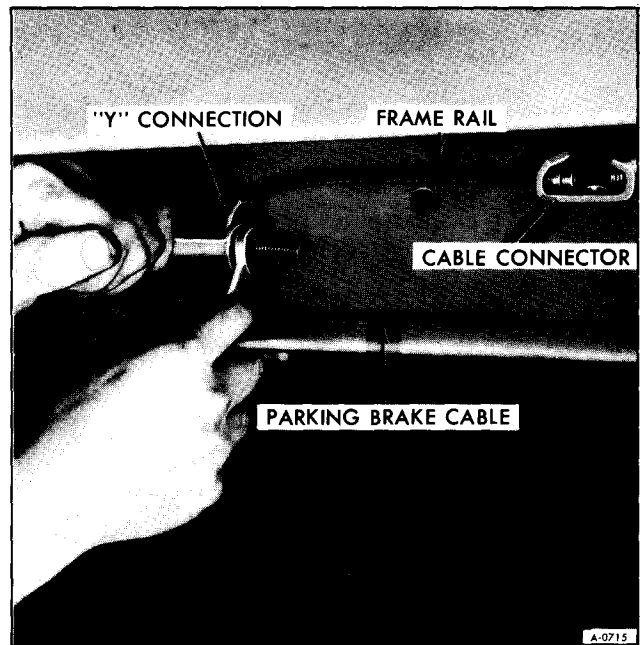

Figure 15—Disconnecting Parking Brake Cable
7. Disconnect parking brake cable at "Y" connection as shown in Figure 15.